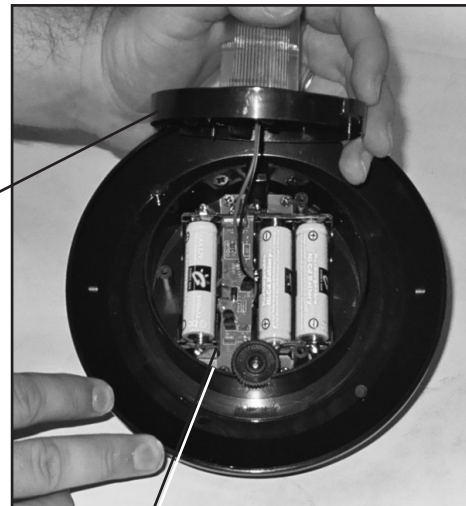

Figure 2
2. Remove the three Screws from the Battery Cover (6). *See Figure 2.*
3. With the Solar Housing Lid (7) off, gently twist off the Battery Cover (9) with the LED Strip of 12 Bulbs (5) and LED Cover (4) assembly. Move the Battery Cover aside, being careful not to disturb the wires and the internal components. *See Figure 2.*
4. Removed the dead batteries and dispose of them or recycle them properly according to the Solid Waste Disposal regulations. Replace with new Rechargeable Batteries. The polarity of the batteries is marked. Be careful of the internal components and do not disturb the wires. *See Figure 2.*
5. Once the batteries are in place, return the Solar Housing Lid (7) and twist clockwise onto the Light Cover (3). Tighten.